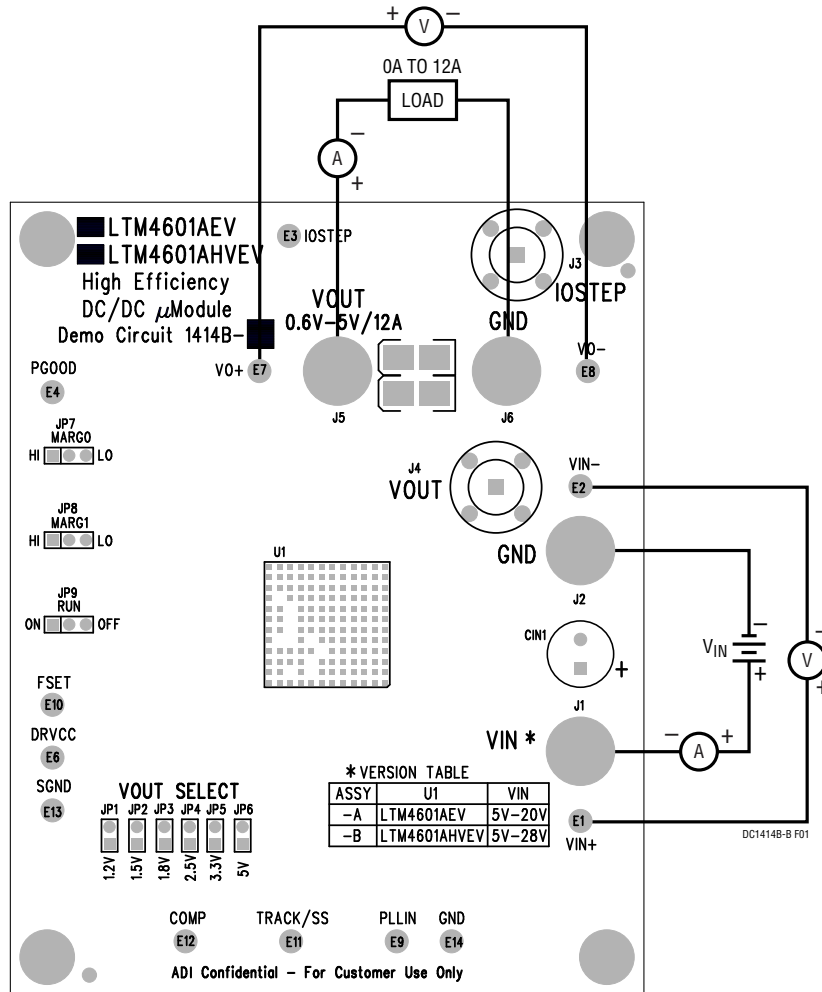

Figure 1. Test Setup of DC1414B-A
Demonstration circuit 1414B-A is easy to set up to evaluate the performance of the LTM4601A. Please refer to Figure 1 for proper measurement equipment setup and follow the procedure below:
2. With power off, connect the input power supply, load and meters as shown in Figure 1. Preset the load to 0A and V_{IN} supply to be less than 20V.